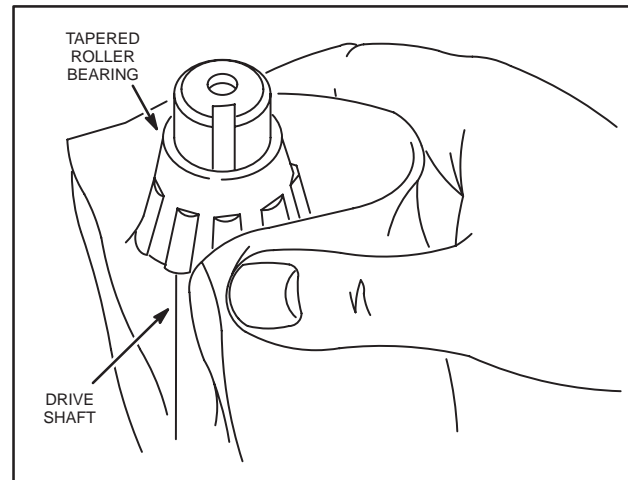

Fig. 146 – INSTALLING TAPERED ROLLER BEARINGS
3. Grasp bearing and thrust it down on the drive shaft against flange of gear, Fig. 146.